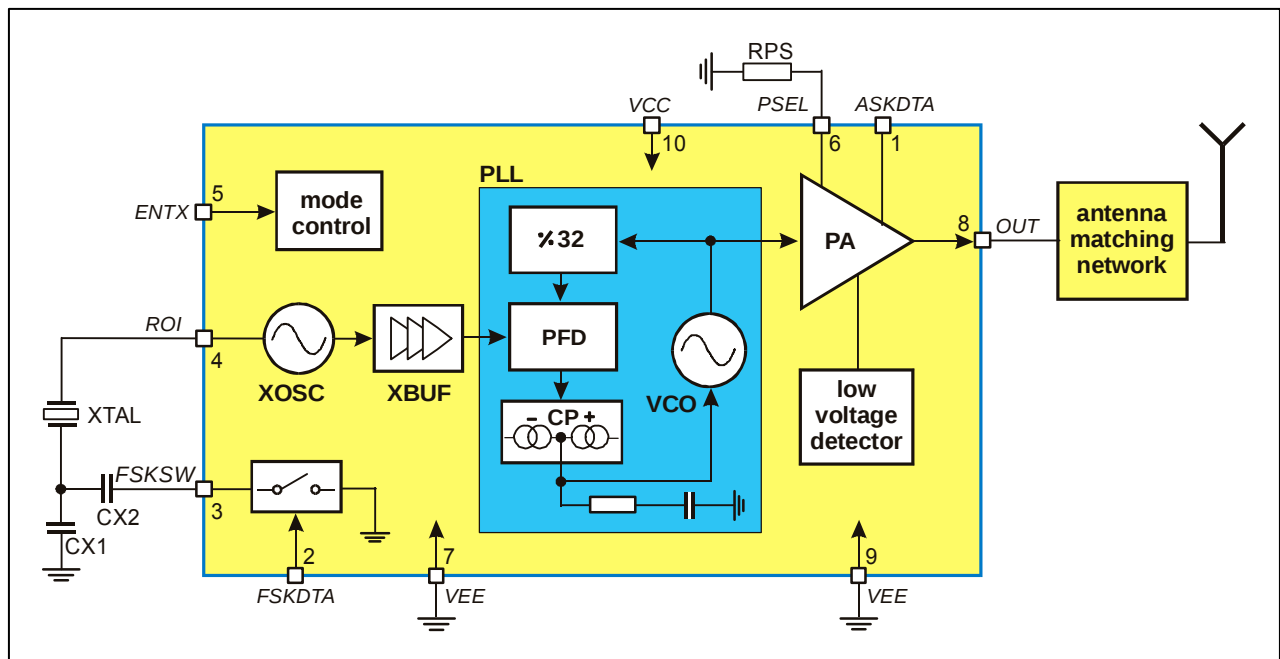

Fig. 1: Block diagram with external components
As depicted in Fig.1, the TH72015 transmitter consists of a fully integrated voltage-controlled oscillator (VCO), a divide-by-32 divider (div32), a phase-frequency detector (PFD) and a charge pump (CP). An internal loop filter determines the dynamic behavior of the PLL and suppresses reference spurious signals. A Colpitts crystal oscillator (XOSC) is used as the reference oscillator of a phase-locked loop (PLL) synthesizer. The VCO's output signal feeds the power amplifier (PA). The RF signal power  $P_{out}$  can be adjusted in four steps from  $P_{out} = -12$  dBm to +10 dBm, either by changing the value of resistor RPS or by varying the voltage  $V_{PS}$  at pin PSEL. The open-collector output (OUT) can be used either to directly drive a loop antenna or to be matched to a 50Ohm load. Bandgap biasing ensures stable operation of the IC at a power supply range of 1.95 V to 5.5 V.